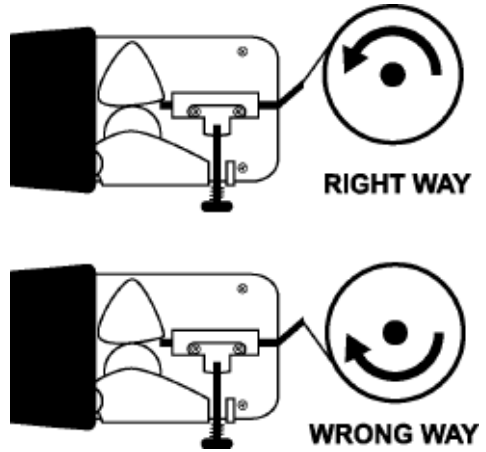

Figure 12. Wire Spool Installation
15. Place the spool on the spindle in such a manner that when the wire comes off the spool, it will look like the top illustration in Figure 12. The welding wire should